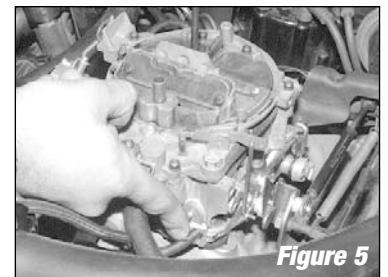

Figure 5
2. With engine at idle, place a vacuum gauge or your finger over the end of each line and check for vacuum (**See Figure 5**). If it shows a vacuum, note this on your sketch or tag as "manifold vacuum".